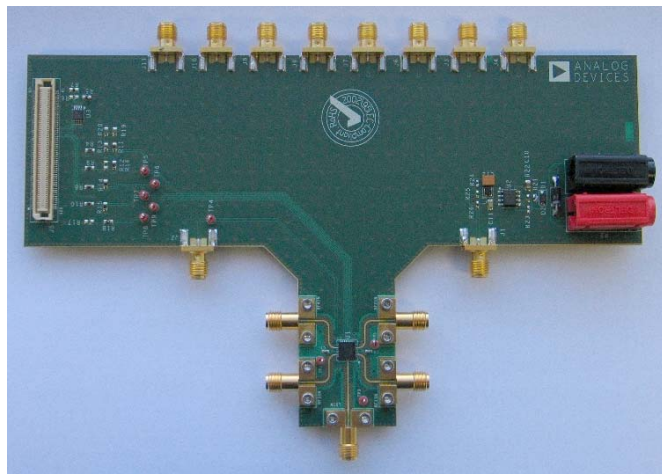

Figure 1.
The **EV-ADF5904SD2Z** evaluation board allows the user to evaluate the performance of the **ADF5904** 24 GHz receiver downconverter. Figure 1 shows the board, which contains the **ADF5904**, five high frequency SMA connectors for the local oscillator (LO) input, four receiver (Rx) inputs, eight SMA connectors for the baseband outputs, banana connectors for power supply, and a connector for serial interface.